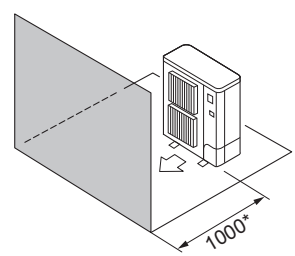

Fig. 5-6
- ④ Obstacles at front only (Fig. 5-6)